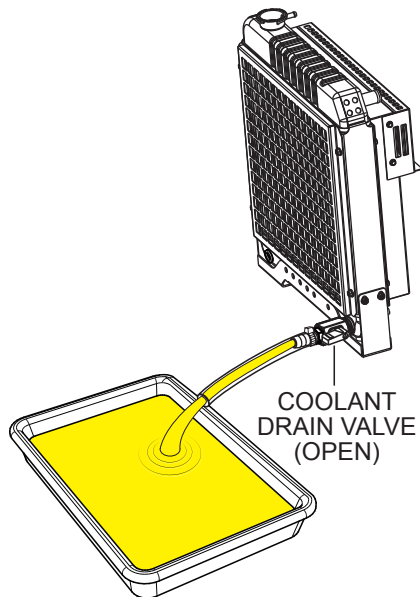

Figure 77. Draining The Engine Coolant
2. Open the cabinet door and place the **coolant drain valve** in the **OPEN** position (Figure 77) and allow the coolant to drain into a suitable container.